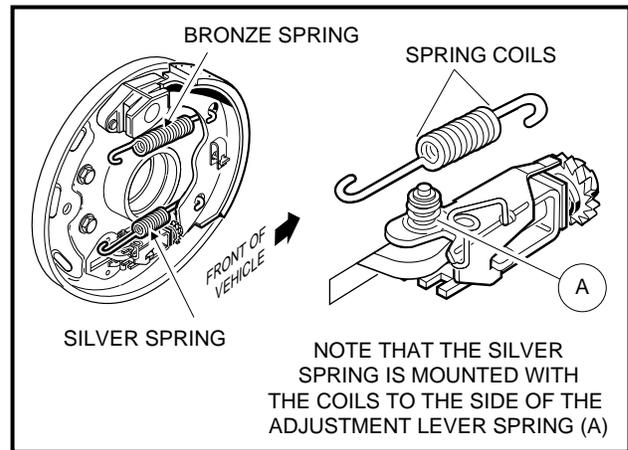

Figure 6-14 Attach Springs
3. Attach the springs onto the trailing shoe already installed. Then hold the leading shoe next to the trailing shoe, correctly oriented, and attach the springs to it (**Figure 6-14, Page 6-7**).